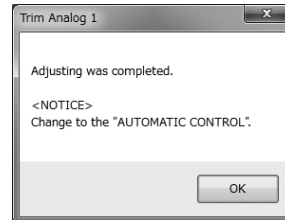

Fig.148
- ⑥ Click the "Cancel" button to exit analog output value adjustment. Click the "OK" button when the "Adjustment is finished" message box appears as shown in Fig. 148.